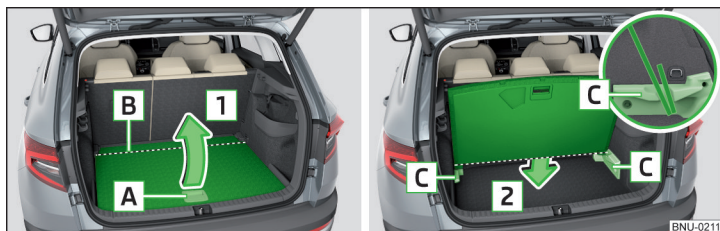

Fig. 156 Adjustment options for the variable loading floor
- Lift the variable loading floor using the handle **A** in the direction of **1**. The variable loading floor is kinked in area **B** ⁴⁰⁰ » Fig. 156.